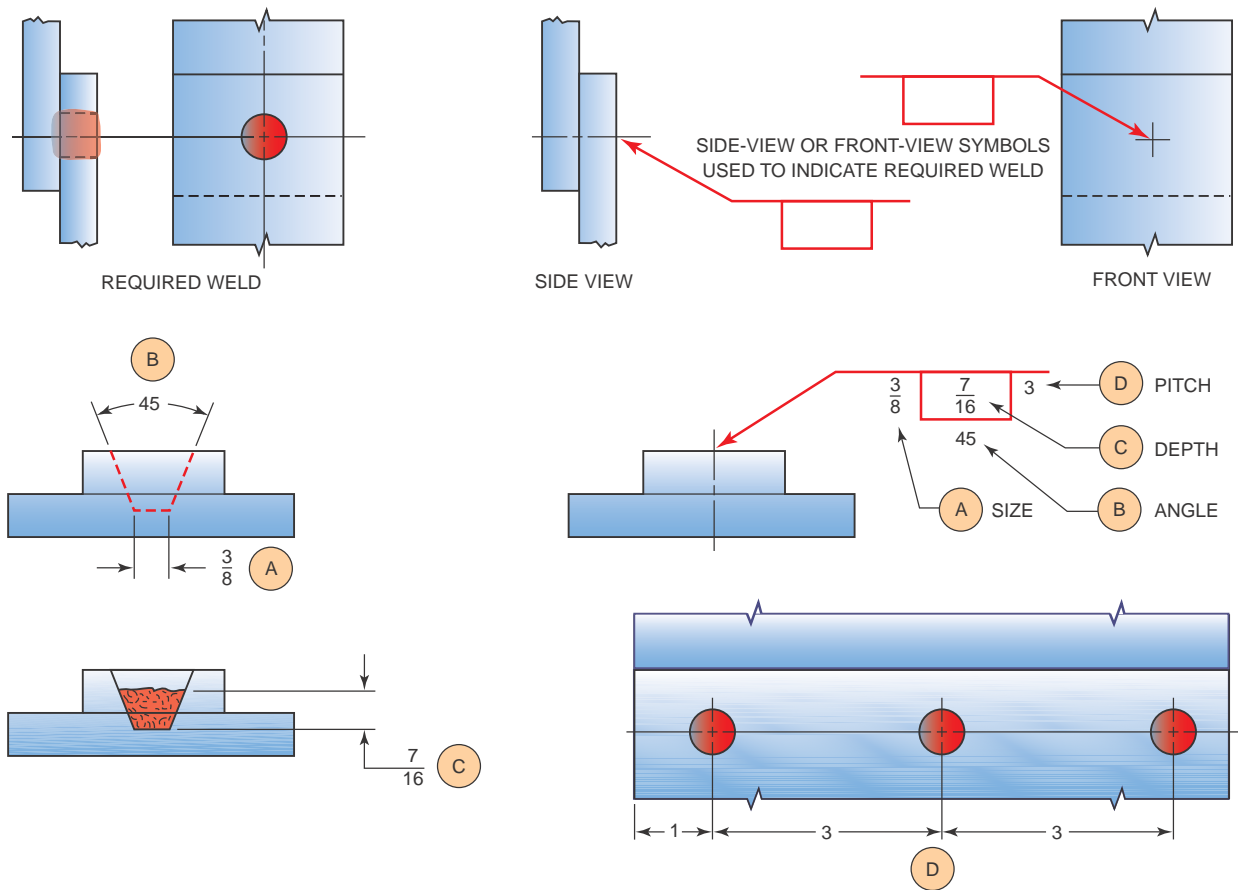

FIGURE 5-22 Applying dimensions to plug welds. American Welding Society
Refer to Figure 5-22 for the location of the dimensions used on plug welds. The diameter or size is located to the left of the symbol (A). The angle of the sides of the hole, if not square, is given above the symbol (B). The depth of buildup, if not completely flush with the surface, is given in the symbol (C). The center-to-center dimensioning or pitch is located on the right of the symbol (D).